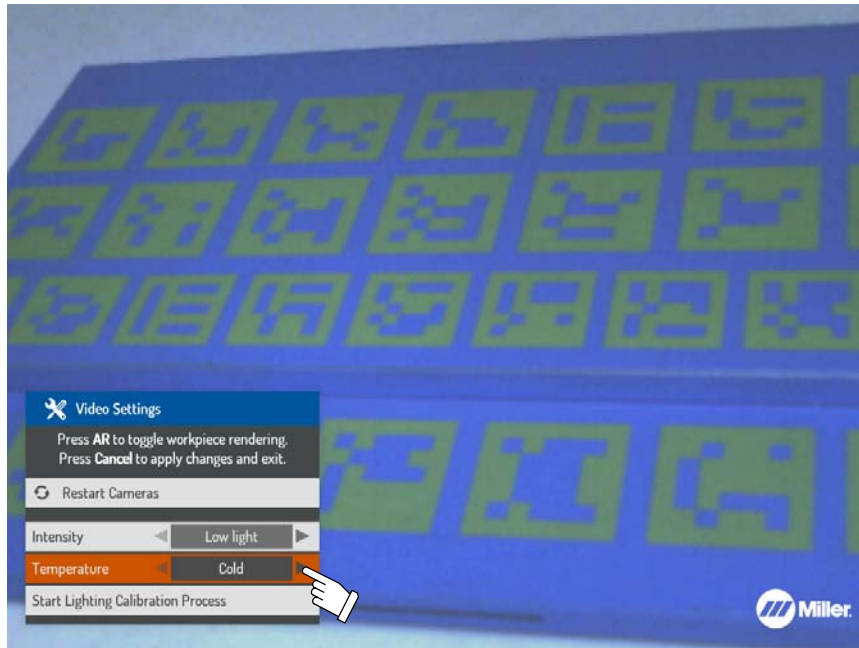

Figure 8-23. Changing Temperature Setting
B. Temperature Setting (Figure 8-23)